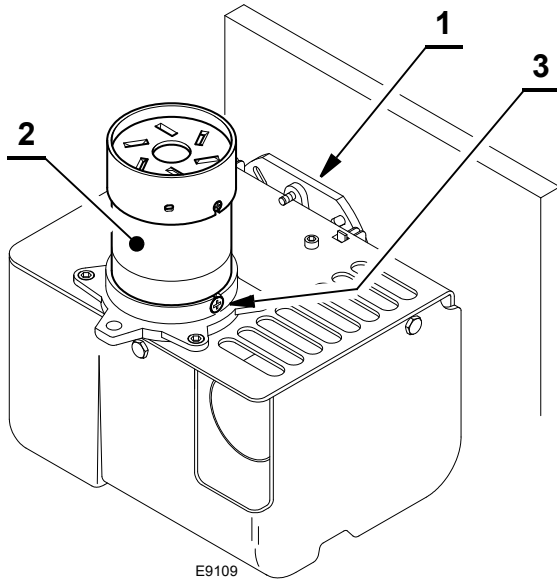

Fig. 21
- Hook the burner to the flange 1)(Fig. 21), by removing the blast tube 2) after loosening the fixing screws 3).